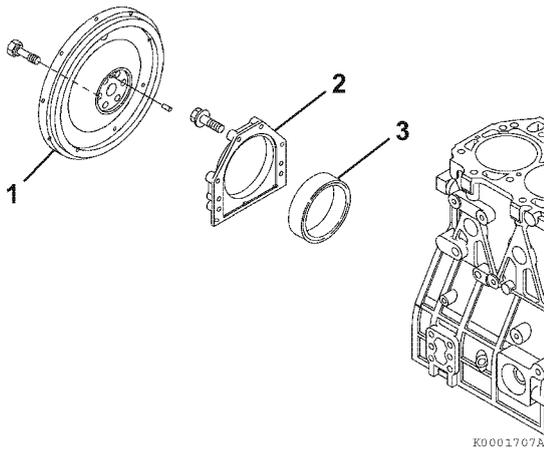

Figure 6-69
3. Remove the rear oil seal (3, **Figure 6-69**) from the seal housing (2, **Figure 6-69**).
4. Apply a continuous bead of ThreeBond Liquid Gasket No. 1207F, YANMAR Part No. 977770-1207F to the outside diameter of a new oil seal (2, **Figure 6-69**), and install in the housing. Apply lithium grease to the lip of the seal.